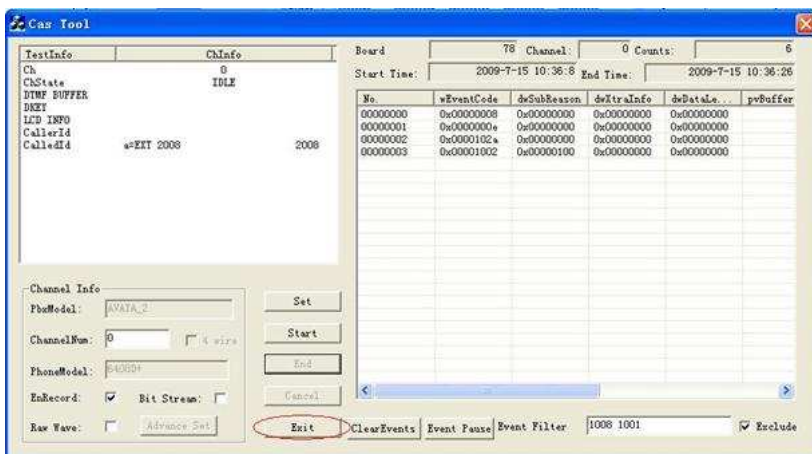

Figure 2-16
Step 12: Go back to the main interface and click on 'Exit' to exit the program. See Figure 2-16 below.